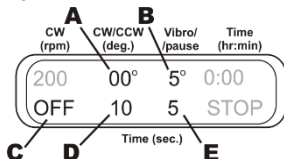
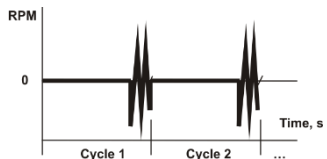

Figure 8.
Figure 9.
6.9.4 **Vibro motion + Pause.** Turn off Rotational motion by setting time of rotational motion to zero (OFF, fig. 8/C). Set the turning angle of reciprocal motion to zero (fig. 8/A) and set the time for reciprocal motion (1-250 s, fig. 8/D) - this is the duration of pause. Set the turning angle (1-5°, fig. 8/B) and time (1-5 s, fig. 8/E) for vibro motion. Graph in figure 9 shows motion in this mode.